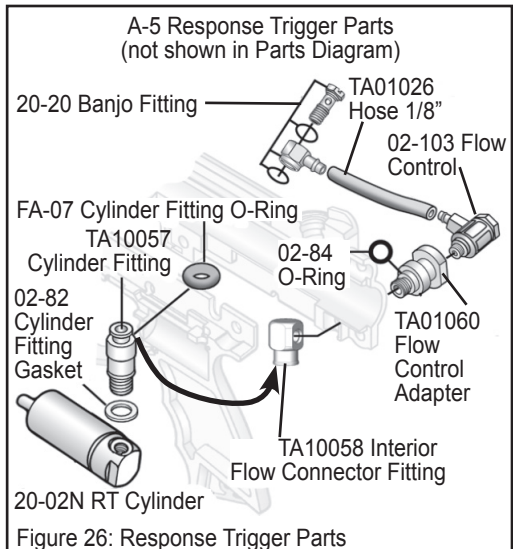

Figure 26: Response Trigger Parts
For the Response Trigger markers, put a couple drops of marker oil onto the Cylinder Fitting O-Ring located in the lower Receiver (Figure 26).
For Response Trigger equipped markers, push the lower Receiver straight up until Push Pin holes are aligned. Pay particular attention that the Cylinder Fitting goes straight into the Interior Flow Connector Fitting (dark arrow, Figure 26). Insert two Push Pins (44) to secure.